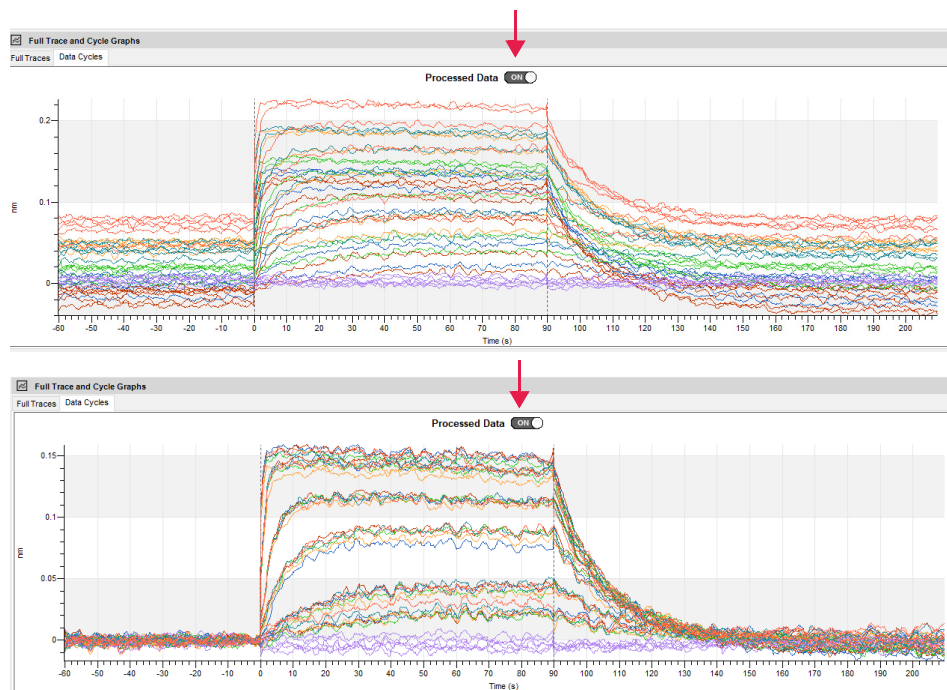

Figure 4-65: Y-axis aligned to Average of Baseline Step Uncorrected (Top) and Corrected Data (Bottom)
- **Average of Baseline Step** - Use this option to adjust the baseline step so the y-axis shows zero, prior to fitting the kinetic data. Use it to align kinetic data where the time interval chosen are the last 5-10 seconds of the baseline step to align the Y-axis. An example of data aligned to the average of the baseline step is shown in Figure 4-65.